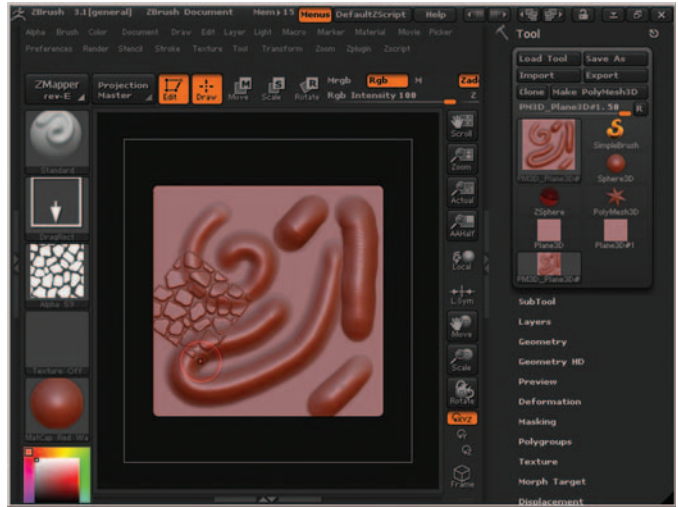

Figure 11.16 Reptile pattern created using the Standard brush with DragRect as the stroke type and Alpha 59 as the alpha.
11. With the Standard brush still active, select DragRect as the stroke type. Under Alpha, select Alpha 59. In the viewport, left-click and drag to see the result. As long as the left mouse button is pressed you can alter the direction and scale of the pattern being created on the mesh. Figure 11.16 shows a stroke I created with the options outlined in this step.